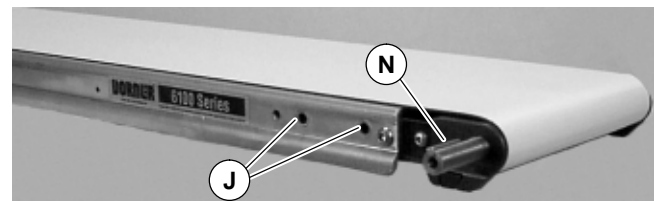

Figure 9
3b. Locate drive output shaft. Remove two screws (J of Figure 9). Install key (N).